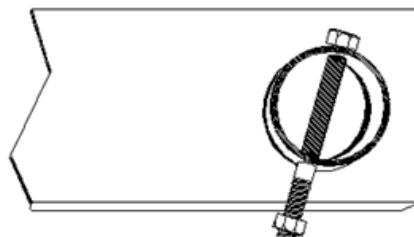

Fig. 7
8. Insert the 4" x 3/8" cap screws into each end of the actuator crossbar (B), using a 3/8" locknut to retain it. (Fig.7)
- **Note:** Tighten the lock nut until there is just three rows of threads passing through the lock nut. (Fig.7) Fully tighten all the remaining nuts and bolts on the barricade.